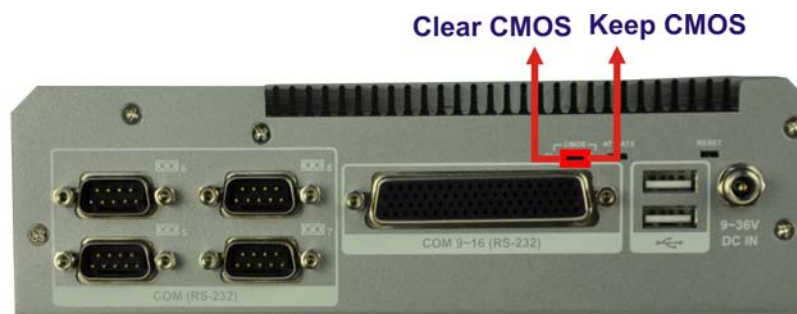

Figure 3-8: Clear CMOS Switch Location
Step 1: Locate the clear CMOS switch on the bottom panel (**Figure 3-8**).